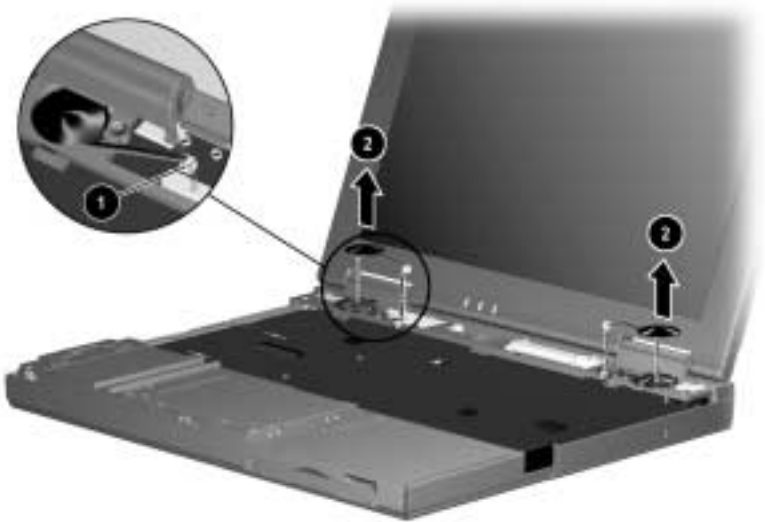

Figure 5-23. *Removing the Speakers*
2. Disconnect the speaker cables from the system board ❶ (Figure 5-23).
3. Remove the speakers from the speaker housing ❷.